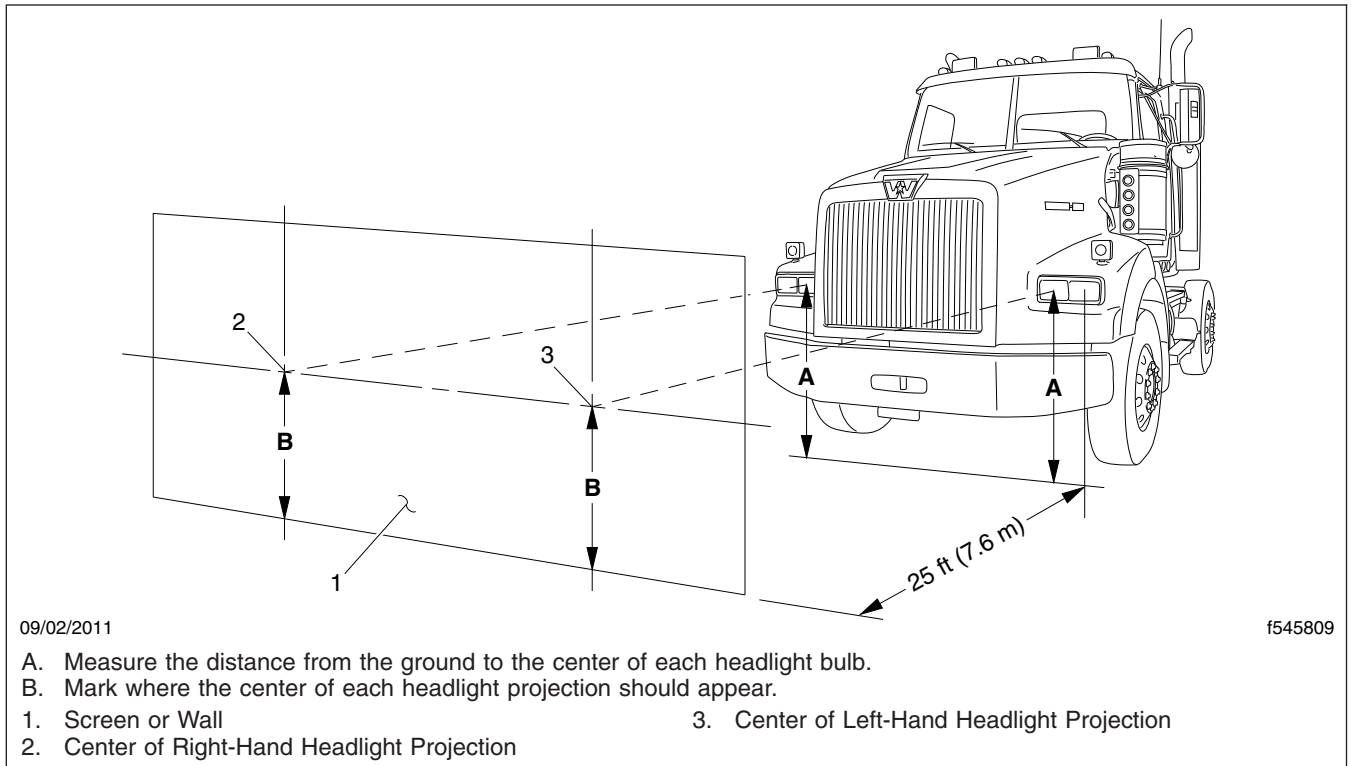

Fig. 19.1, Headlight Aiming Screen/Wall
3. Measure the distance from the ground to the center of each headlight bulb (**Fig. 19.1**, Item A). Note those distances.
4. On the screen or wall, mark the locations of each headlight bulb center using the distances found in step 3. See **Fig. 19.1**, Items 2 and 3.
6. Check the horizontal aim of the low beams. The center of each beam projection should fall on or near the marks made during step 4 (**Fig. 19.1**, Items 2 and 3).